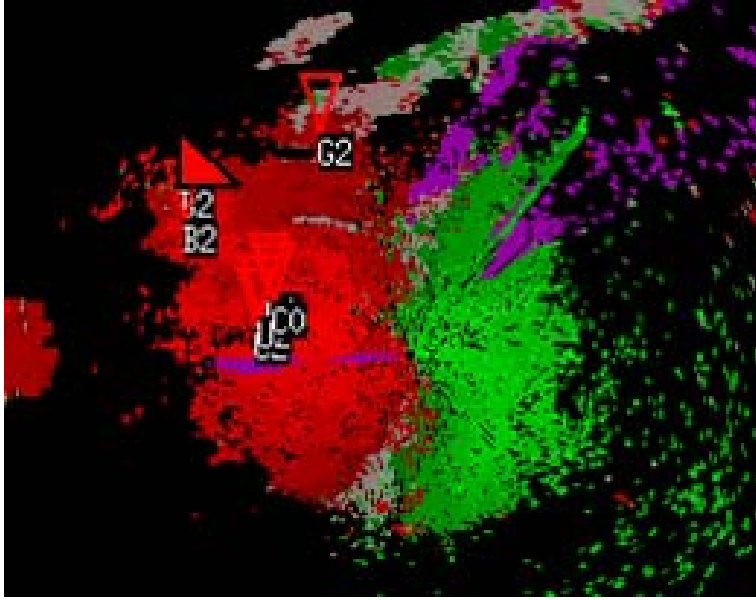

Figure 5-101. TRU Graphic Product. Note the extrapolated (unmatched) detection associated with cell B2 that is annotated with a filled right triangle.
- The graphically displayed icons will distinguish between **extrapolated** and current TVS and ETVS features (see Fig. 5-101 on page 5-162).